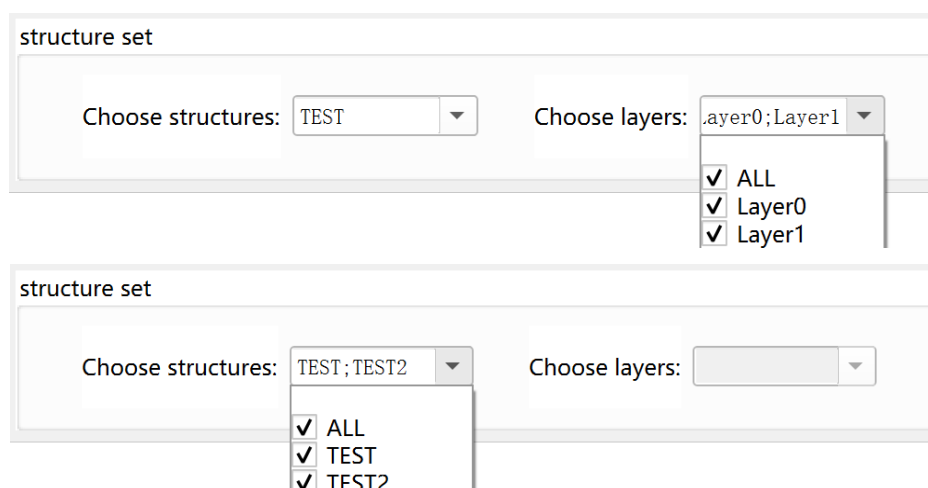

Figure 3.1.2 Set the layout to be corrected
(10) A GDSII file can contain multiple structures, and a structure can contain multiple layers. If users only want to perform PEC on part of the layout in the file, they can click on the "structure set" at the bottom of the page to further set the layout to be corrected. But you must select at least one for "Structure" and at least one for "Layer" (Figure 3.1.2 (top)). If multiple "Structure" has been selected, you cannot select "Layer" again (Figure 3.1.2 (bottom)).